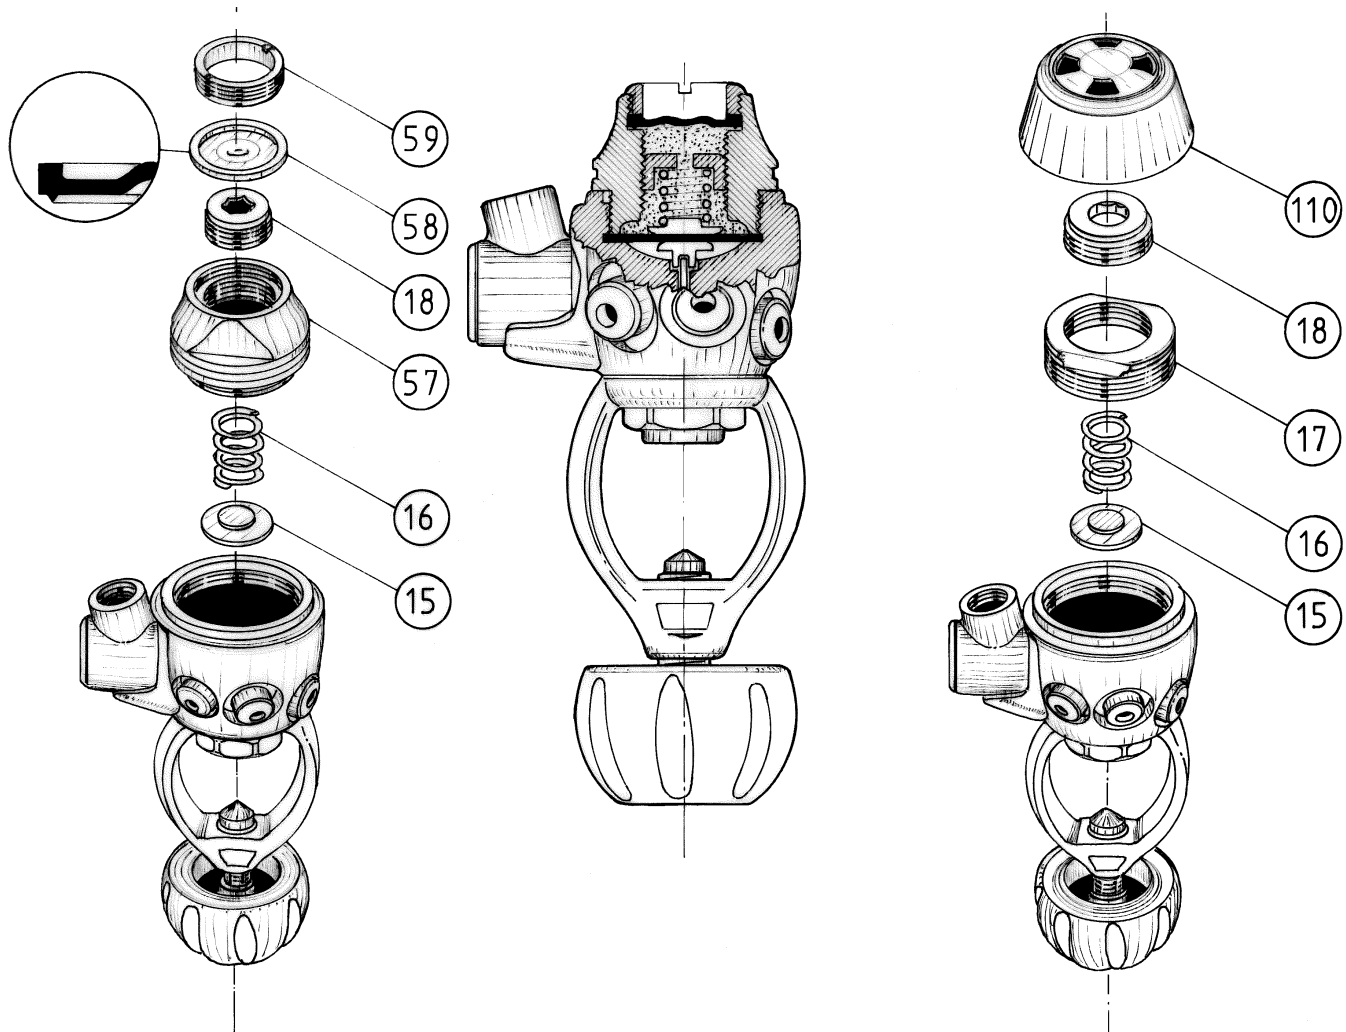

FIG. 8
22. Fit the A.E.R. diaphragm (58) inside the A.E.R. body. (57) orienting it correctly (with the edge facing upward) on the seat of the A.E.R. body (See Fig. 8).